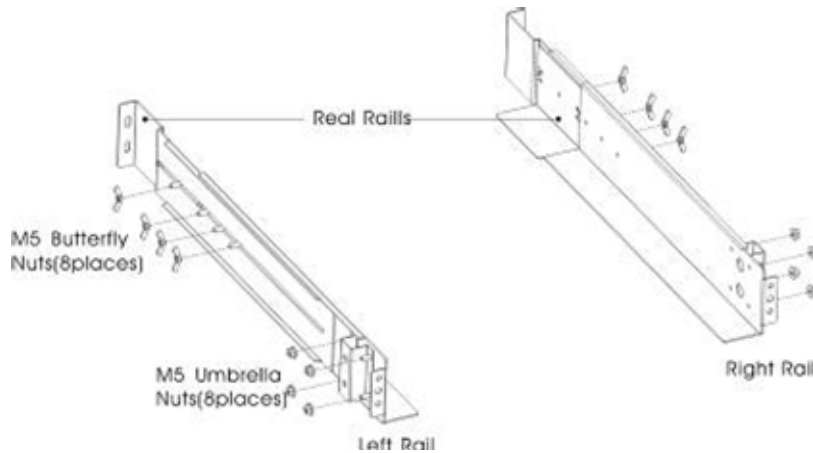

Figure 1 - Securing the Rails
- *If installing optional Battery Cabinets (BC), make sure to install the BC directly below the UPS so that all wiring between the cabinets is installed behind the front covers and inaccessible to users.*
**(1) To install the rail kit**
- a) Assemble the left and right rails to the rear rails as shown in Figure 1. Do not tighten the screws.
- c) Tighten four M5 Umbrella Nuts in the side of rail assembly (see Figure 1).